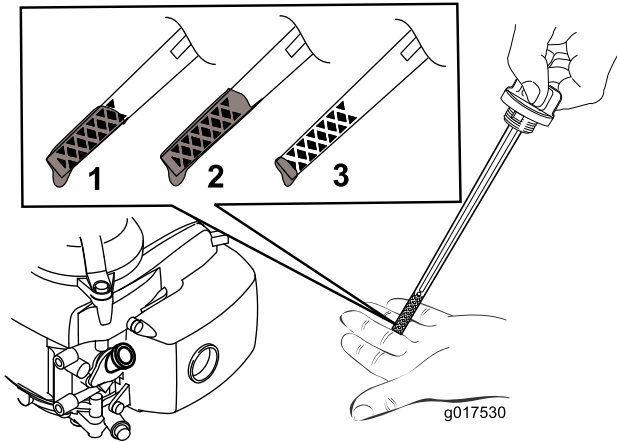

Figure 10
2. Remove the dipstick by rotating the cap counterclockwise and pulling it out (Figure 10).
5. Read the oil level on the dipstick (Figure 10).
- If the oil level on the dipstick is too low (Figure 10), carefully pour a small amount of multigrade mineral SAE 10W-30 oil with an API series classification of SJ or higher into the oil-fill tube, wait 3 minutes, and repeat steps 3 through 5 until the oil on the dipstick is at the correct level.
- If the oil level on the dipstick is too high (Figure 10), drain the excess oil until the oil on the dipstick is at the correct level; refer to Changing the Engine Oil (page 16).